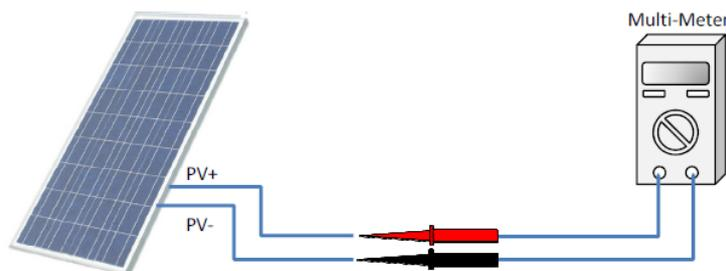

Figure 4-11 DC cable polarity detection
- Refer to Figure 4-11 to confirm the DC input configuration, ensuring that the maximum open-circuit voltage of each photovoltaic module is lower than 1100 Vdc under any conditions (considering the negative temperature coefficient of the battery panel, special attention should be paid to the lowest ambient temperature. The open circuit voltage of the photovoltaic array is lower than 1100V).